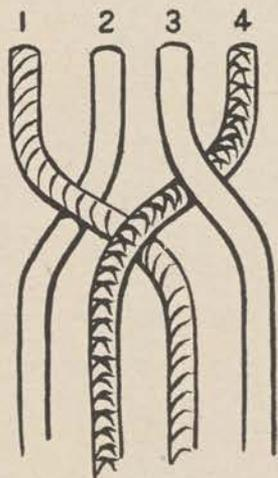

Figure 144.
c. To braid four strands, start with the one at the outer left and pass it over the one next to it. Then take the outer right strand and pass it *under* one and over one (fig. 144). The process is repeated